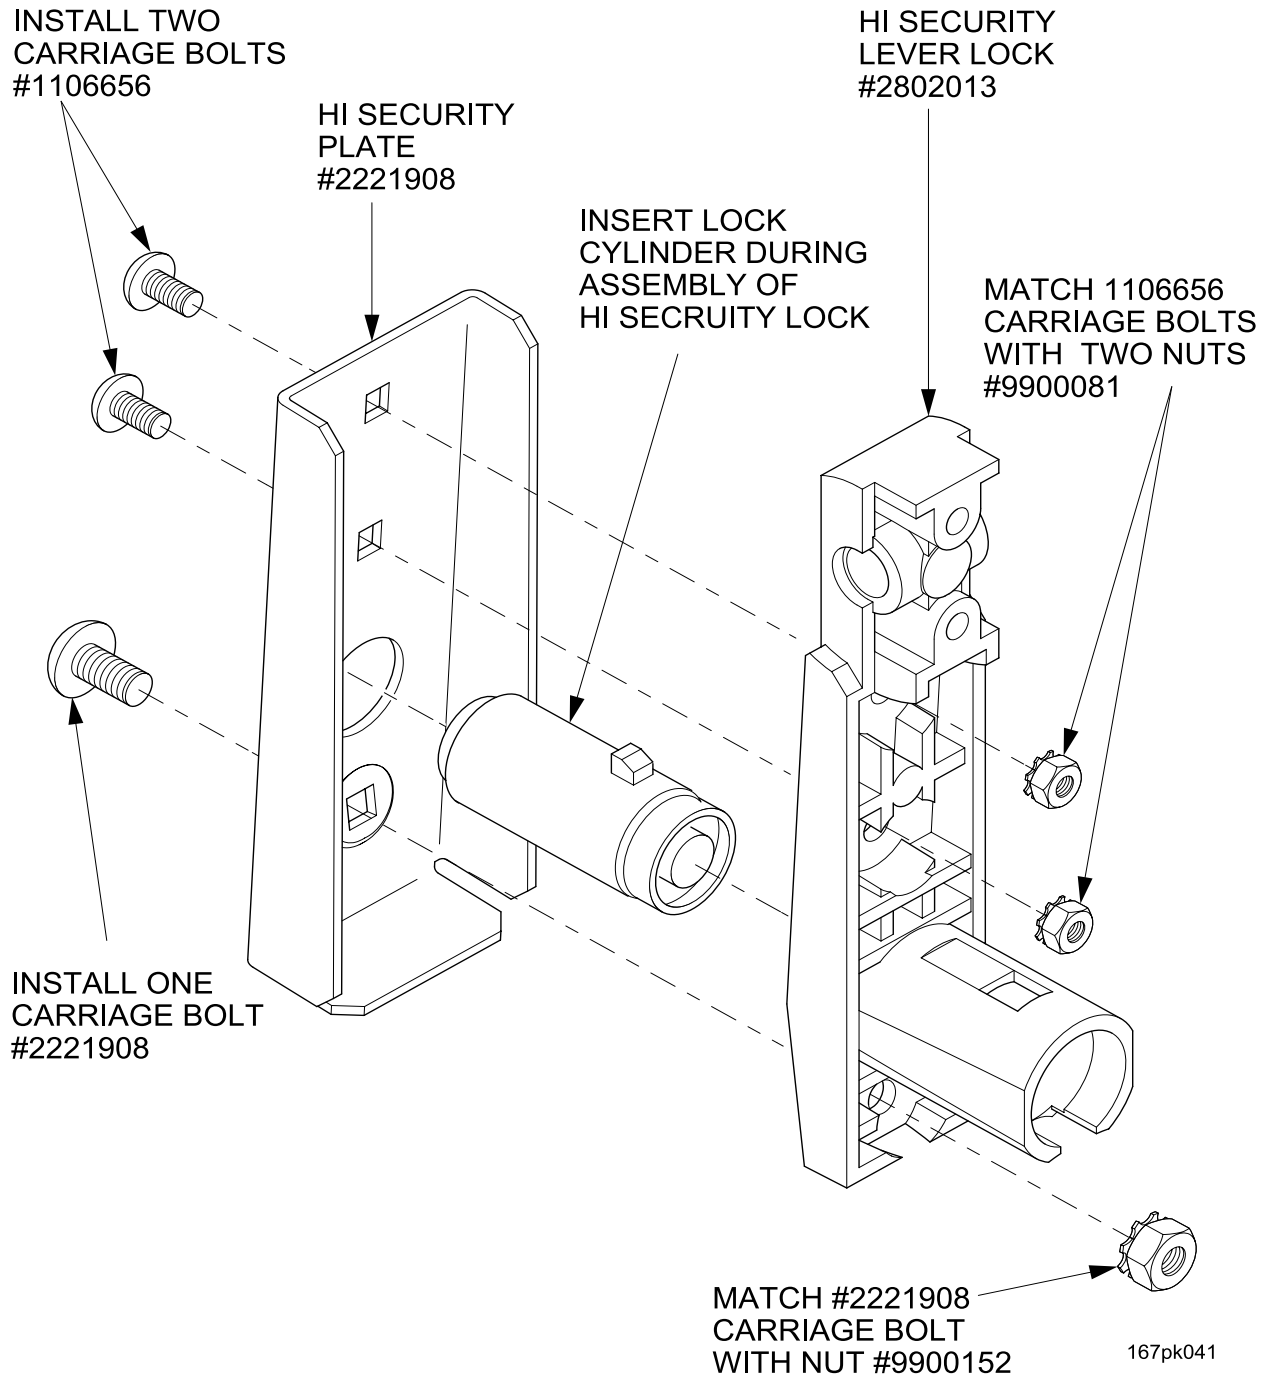

Figure 2 Install New Hi-Security Lock Assembly
13. Install the new hi security lock lever cover. (See Figure 2)